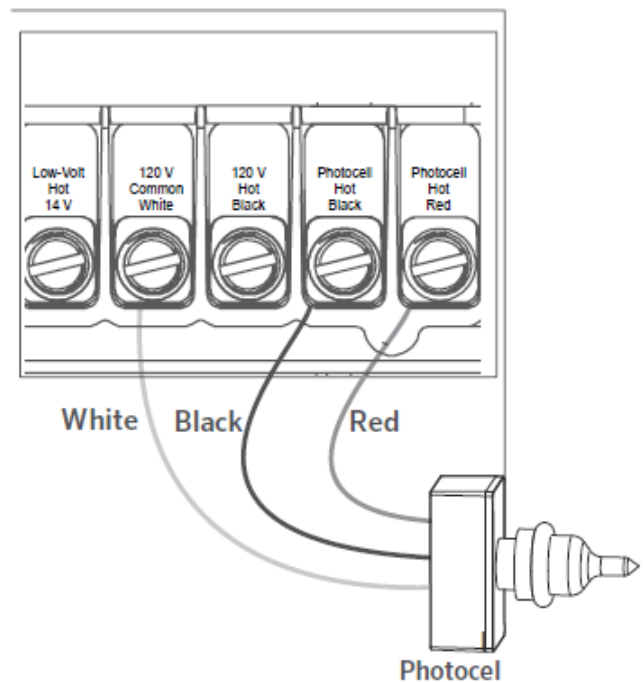

Figure 3: PX photocell wiring
4. The photocell comes equipped with three wires: a white common wire, a black hot wire, and a red switch wire. The white wire is installed into the lug labeled "120 V Common White." The black wire is installed into the lug labeled "Photocell Hot Black." The red wire is installed into the lug labeled "Photocell Hot Red" (Figure 3).